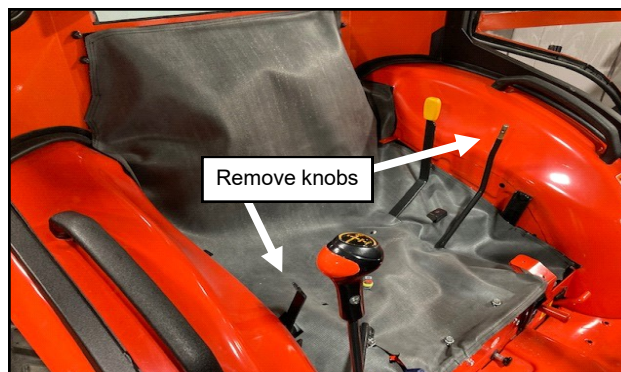

Fig. 16.1 (Install Under Seat Filler)
- 16.1 See fig. 16.1. Remove the large knobs from the levers to either side of the seat (one Phillip's screw each), then remove both plastic shrouds for the levers from beside the seat, (4 screws each, 10mm socket). Retain all hardware.
- 16.5 Remove the release tape a little at a time and stick the filler down as you work your way around. See Figures 16.1 and 16.5.